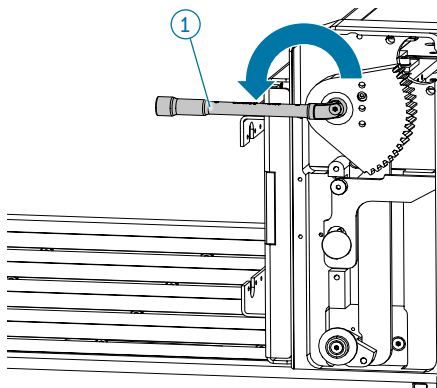

Fig. 183
- ▶ Remove the fixing screws from the cover (3) (hexagon socket width across flats 2.5).
- ▶ Remove the cover from the side panel (2).
- ▶ Remove the fixing screws (4) from the motor and push the motor back until the gears are no longer meshed.
- ▶ Remove the cover (5) and the washer (6) together with the screw (7) (hexagon socket width across flats 2.5).
- ▶ Place the socket wrench width across flats 8 (1) onto the now-exposed hexagon socket of the locking shaft (9).
- ▶ To unlock the receiver, turn the socket wrench counterclockwise until the system (8) is unlocked completely, see bottom figure.
- ▶ After removing the adapter (ITA), move the socket wrench width across flats 8 (1) back to the home position and reassemble everything by following the steps in reverse order (Fig. 183).